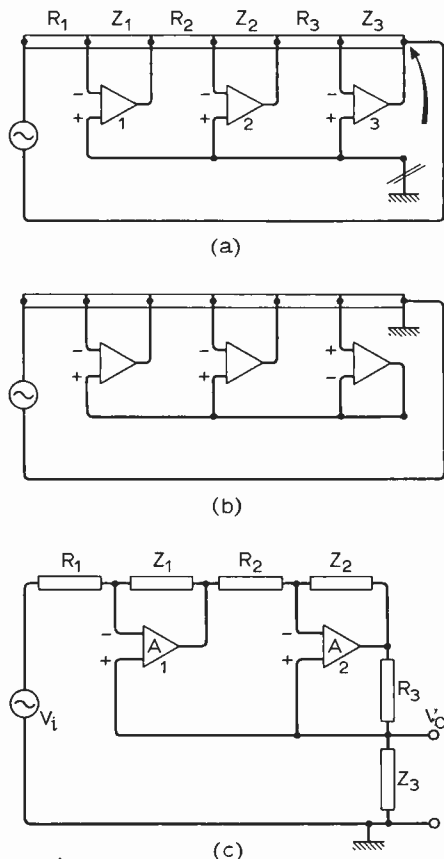
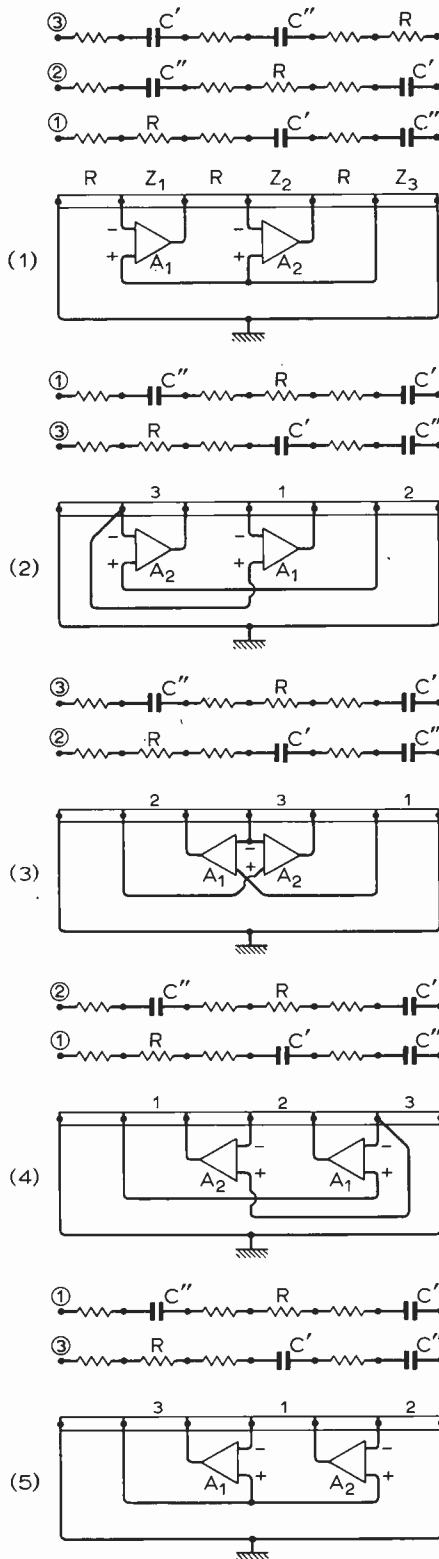

Fig. 1. Summary of derivation given in Part 15.
Fig. 3. Five of the twelve connection diagrams.
In Part 15 it was shown how a two-amplifier circuit, using amplifiers with differential input, can be derived from the standard three-amplifier two-integrator loop (the basic high- Q active CR circuit). The two-amplifier circuit, Fig. 1(c), may be thought of as a bootstrapped version of the standard circuit; and the essential steps in the derivation are (1) the moving of the
earth point as shown in Fig. 1(a) and the consequent conversion of amplifier 3 to a voltage follower, Fig. 1(b), (2) the removal of the voltage follower and the direct connection of the + terminals of amplifiers 1 and 2 to the junction of R_3 and Z_3 .
A constant feature of the standard two-integrator loop, and of the circuits derived from it as described, is the string of six passive elements which in Fig. 1(c) are drawn conventionally as rectangular boxes; and it is helpful, both to emphasize this feature and for economy in space and effort, to draw the string as a bar, Figs 1(a) and (b). It is to be understood that two of Z_1, Z_2, Z_3 (any two) are capacitances and the remaining one a resistance, giving three distinct circuits (see Fig. 3, diagram 1). The two having Z_3 a capacitance can, by the removal of that capacitance, serve as earthed inductances: the third with Z_1, Z_2 capacitances is useful as a low-pass filter section, since in this case R_3 and Z_3 are both resistances, and therefore form an aperiodic potential divider, and a low-impedance low-pass output can be taken from the output terminal of amplifier 2. But three circuits from one is only a beginning.
the performance of the two-amplifier system, Fig. 1(c), will be essentially unchanged if the positive input terminal of amplifier 2 is connected to the negative input terminal of amplifier 1. The same conclusion can also be reached by reference to the original three-amplifier loop: the correct voltage to pass on to the second stage is virtually the voltage developed across Z_1 .† Thus diagram 2 of Fig. 3 is obtained. For the time being no notice should be taken of the numbers
No input or output terminals are shown in Fig. 3. A key to their normal positions is given in Fig. 4, where the analogy is made with an equivalent passive circuit. With ideal amplifiers, the voltages V_0' and V_0'' in the active circuit (b) will be equal, and will correspond to the voltage V_0 in the passive circuit (a). Thus l-p response is obtained at both V_0' and V_0'' with input at V_1 (V_2 shorted), and h-p response with input at V_2 (V_1 shorted). In practice the voltages V_0' and V_0'' are not themselves very suitable as outputs, because they come from high-impedance points. But, as described in Part 15, by arranging the element string so that the Z adjacent to the desired output point is a resistance, a similar output may be taken from the output terminal of one of the amplifiers.
Fig. 4(c) shows the two arrangements of the passive elements which give an inductance, and the two corresponding complete element strings (six elements) are shown against diagrams 2 to 5, Fig. 3, and in Fig. 7; but the third string may of course be used, as in diagram 1, for the synthesis of a quadratic factor.
Connection diagram 2 of Fig. 3, with the lower of the two strings shown (3), corresponds to the circuit given as a simulated inductance in Fig. 6(c) of Part 15, and which analysis and experiment show to be satisfactory for high- Q circuits, though, when finite gain in the amplifiers is allowed for, of somewhat lower intrinsic Q than those connected as diagram 1.
conform to connection diagram 3 of Fig. 3, used with the upper string (3).